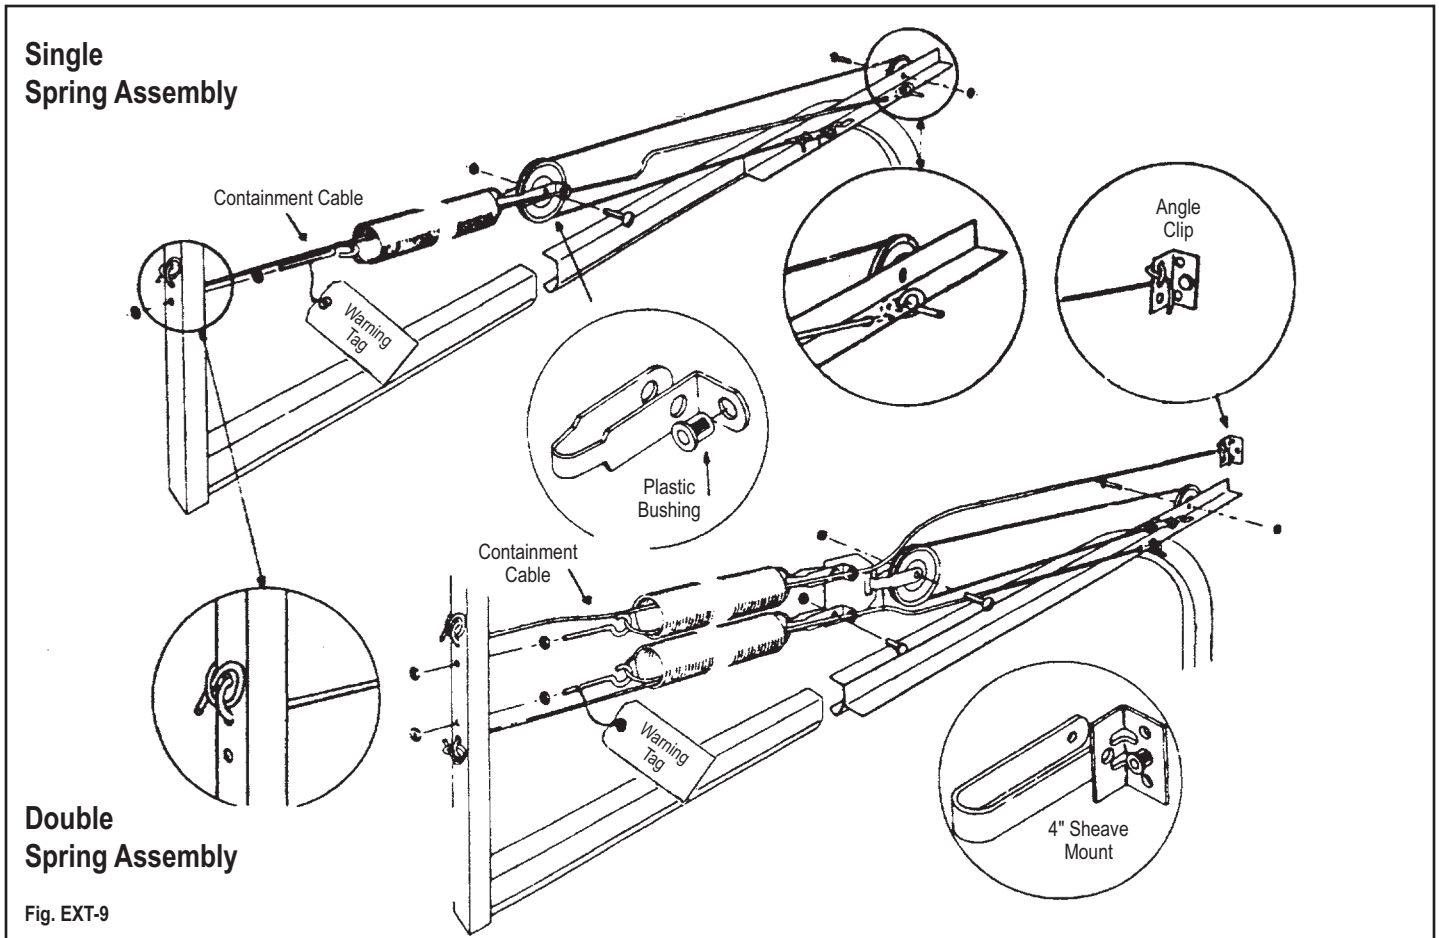

Fig. EXT-9
**Important:** Attach the warning tag found in the white envelope with orange print to the spring assembly (this tag may already be attached). (Fig. EXT-9)
Tie one end of the 1/8" containment cable to the rear track hangers. Tie the cable as shown in the illustration (Fig. EXT-9). Thread the cable through the center of the extension spring and through the bushing in the sheave fork. Tie the remaining end to the horizontal angle as shown. This must be done for each of the springs.
**NOTE:** If your door has four extension springs, tie the upper containment cable to an angle clip mounted to the jamb. (Fig. EXT-9)